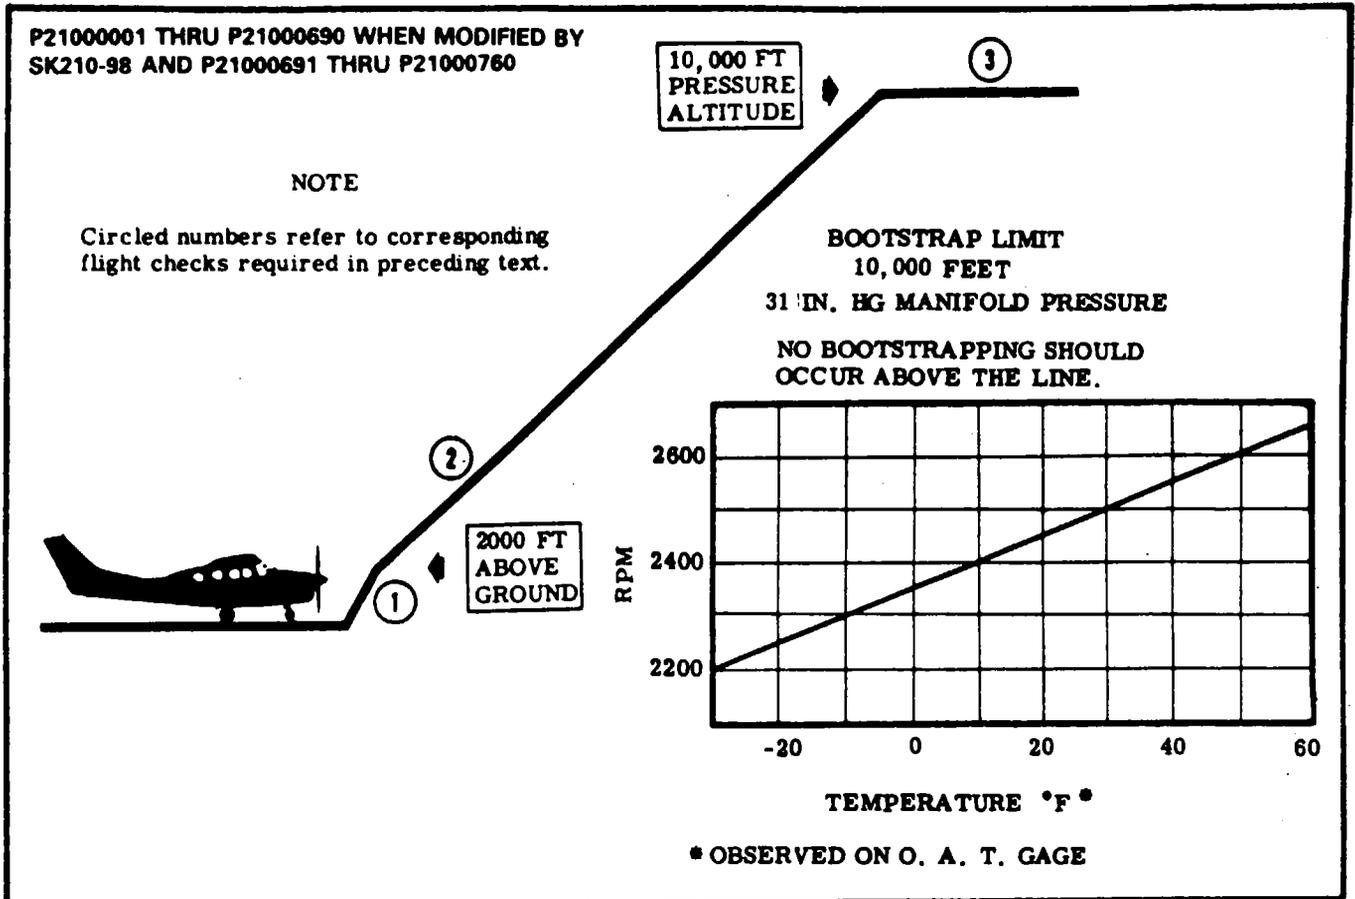

Figure 12-17A. Operational Flight Check
If the waste gate closes at engine speeds lower than shown on the chart in figure 12-17A, the turbocharger performance is normal. If the waste gate closes at engine speeds higher than shown in figure 12-17A, refer to the trouble shooting chart in paragraph 12-112.
- (2) Note outside air temperature and RPM as manifold pressure starts to drop, which should be in accordance with the chart in figure 12-17A.
- (3) After noting temperature and RPM, increase engine speed 50 RPM to stabilize manifold pressure, with the waste gate modulating exhaust flow to control compressor output.